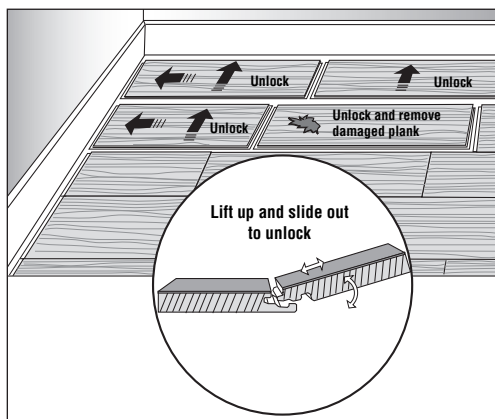

Fig. 42
2. Remove the boards by unlocking them (Fig. 42). Number the boards, on the back, so they may be repositioned later. You can work in either direction, carefully working back to the damaged piece.